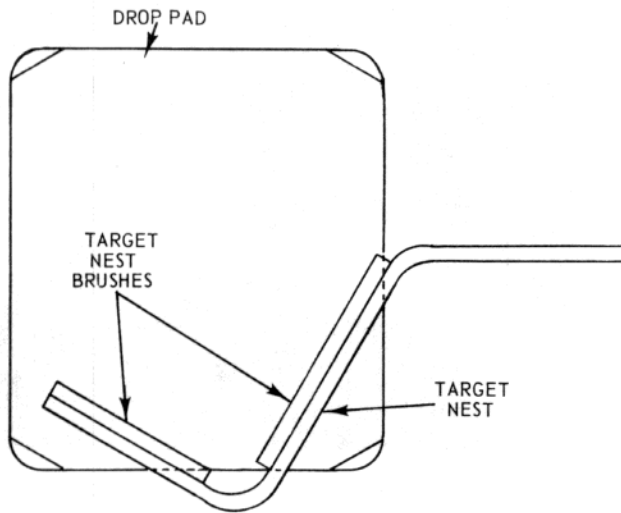

Figure 13 — Target Nest Position
- 1.1 The target nest should be positioned so that the bottom of the "V" is even with the lower edge of the drop pad (see Figure 13).